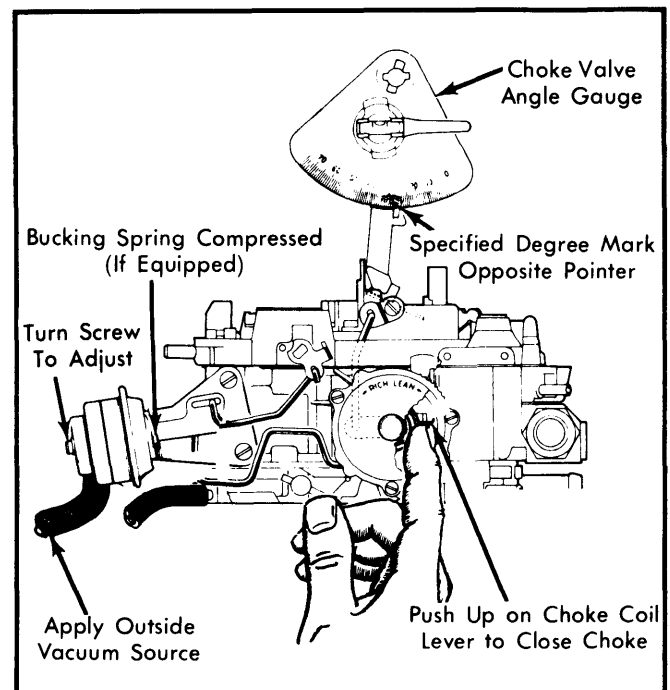

Fig. 9 Adjusting Secondary (Rear) Vacuum Break
1) Using an outside vacuum source of at least 15 in. Hg, seat secondary (rear) choke vacuum break diaphragm. See Fig. 9.